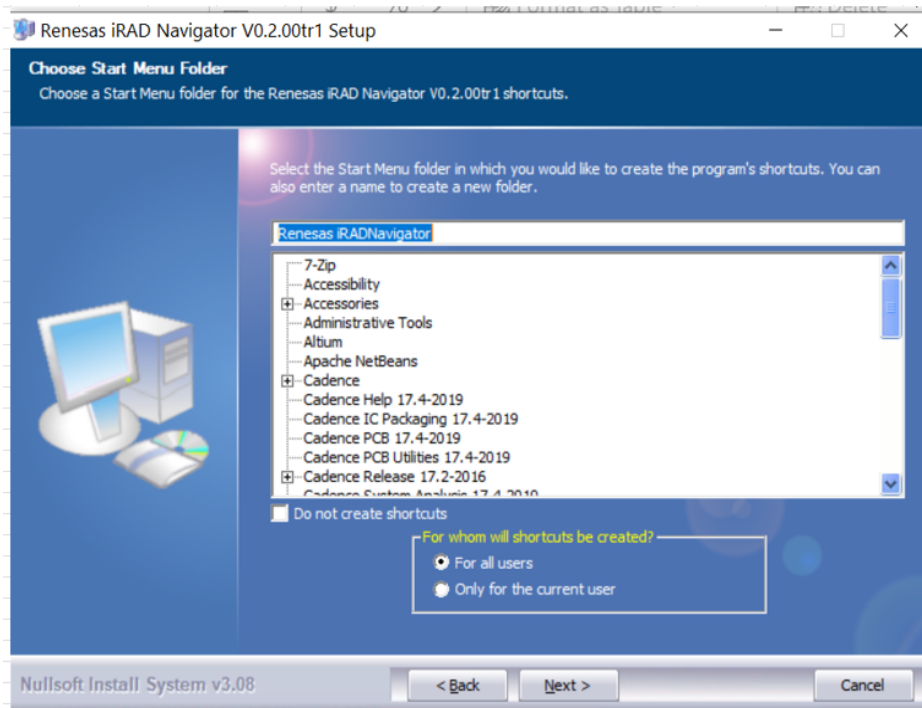

Figure 2. Optional: Create shortcuts for all users
6. It is helpful to create shortcuts **For all users** on shared computers. This step is shown in Figure 2.